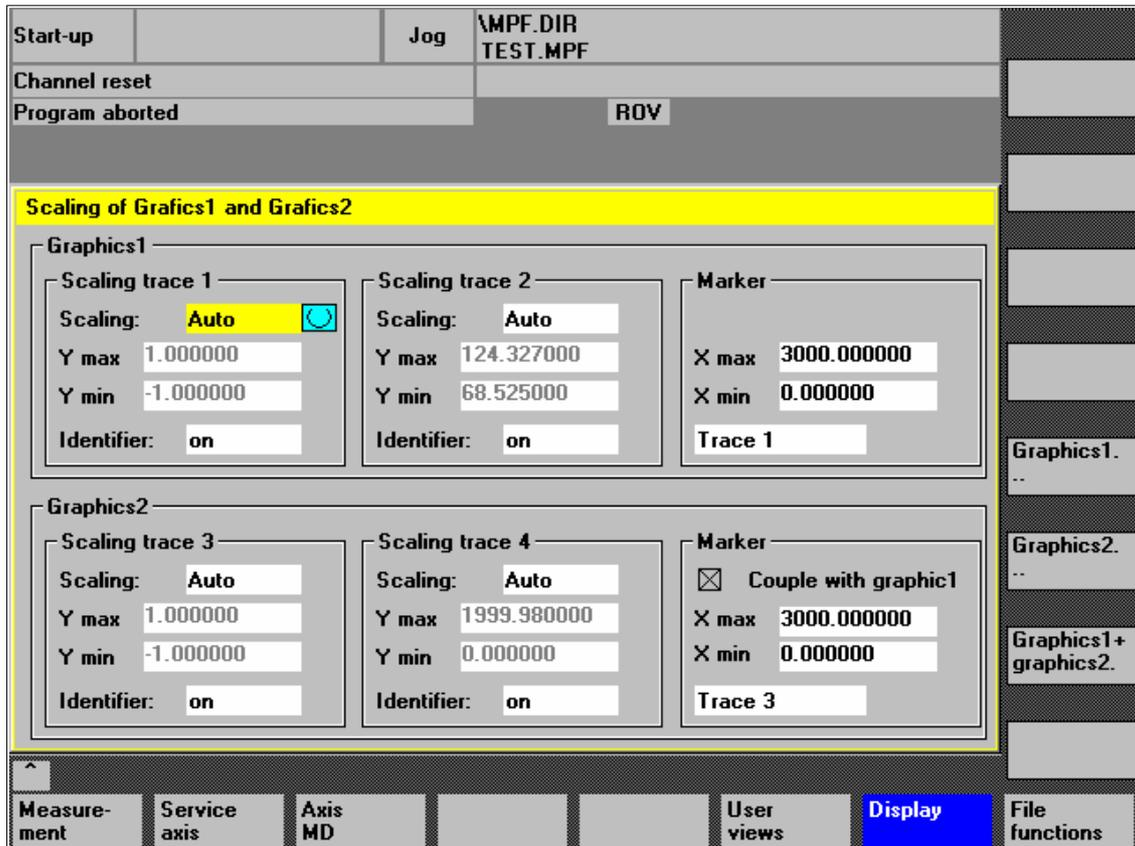

Fig. 14-12 Menu: Scaling of graphics
- Switching over the display from double to single graphics and vice versa (this function also exists in the scaling menu Fig. 14-12, Page 14-454)